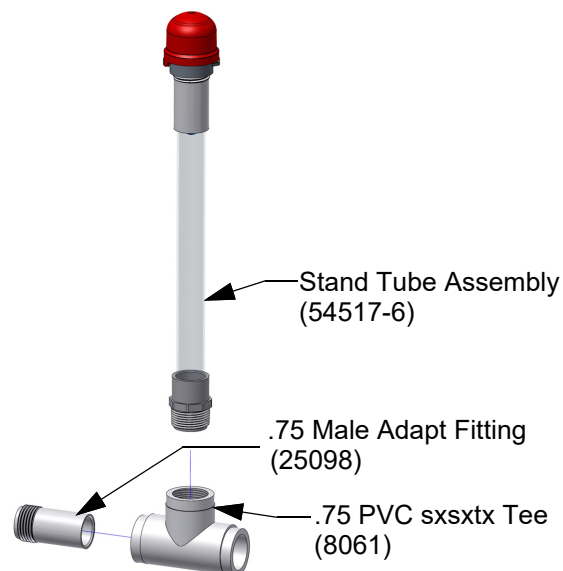

Figure 3. End Line Stand Tube Assembly
1. Install a .75 Male Adapt Fitting (25098), to the inside of a .75" PVC sxsxtx tee (8061) as shown in Figure 3 below.